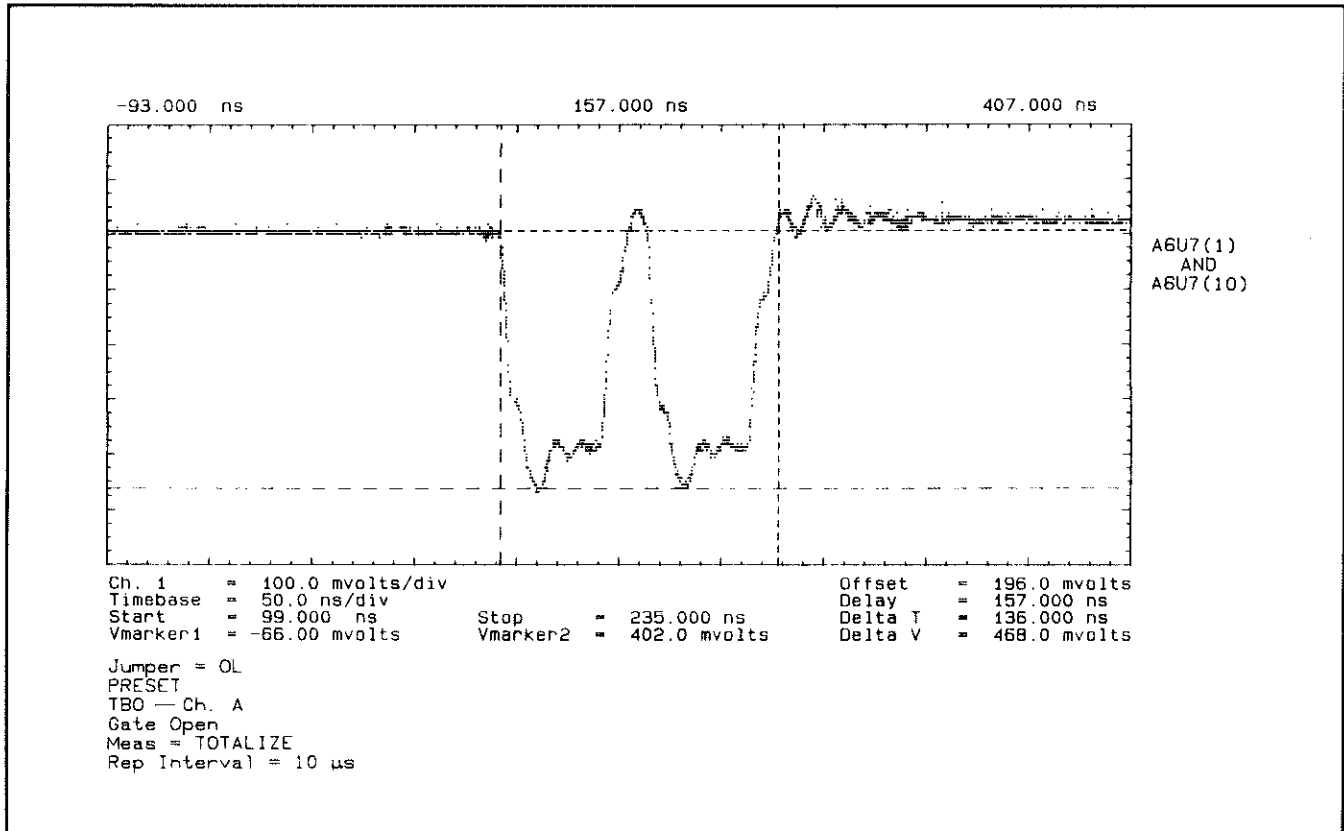

Figure 7F-20. Waveforms at A6U7(1,10) in Totalize Mode
2. Jumper Position = Open Loop, Timebase Out to Channel A Press PRESET. Observe signals at A6U53(5,13), see *Figure 7F-21*. Change measurement to Totalize. Observe signals at A6U53(5,13), see *Figure 7F-22*. (Rep Int=10uSec)